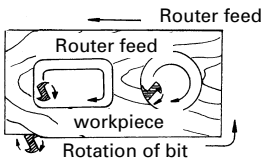

Fig. 12
- (2) Then turn the tool on and wait until the bit attains full speed.
- (3) The bit rotates clockwise (arrow direction indicated on the base). To obtain maximum conformance with the feed directions shown in **Fig. 12**.